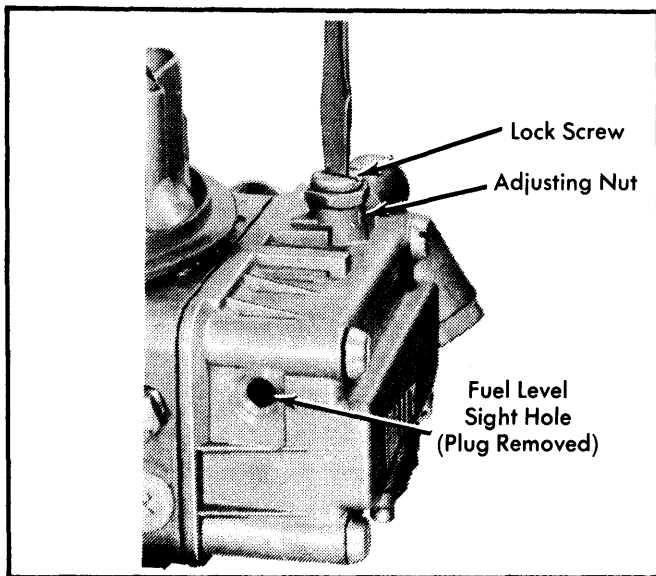

Fig. 3 Float Level Adjustment (Wet Setting)
1) With engine at normal operating temperature, place vehicle on a flat, level surface. Remove air cleaner. Check fuel level at each float bowl separately. See Fig. 3.